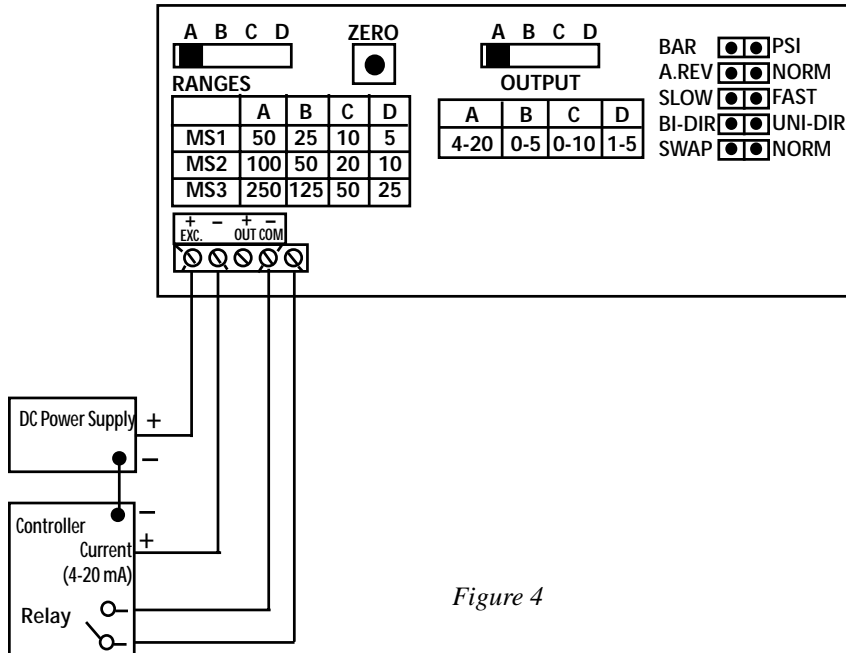

Figure 4
**Auto Zero Button:** Press and hold the “ZERO” push-button for 2 seconds to automatically reset zero or provide contact closure on “Remote Zero, see figure 4, pg. 8, and figure 5, pg. 9 .